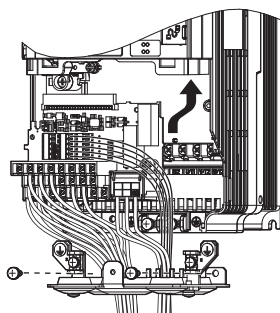

Figure 7.61 Drive Replacement: Installing the Terminal Board
1. Once the main circuit has been wired, connect the terminal block to the drive as shown in Figure 7.61. Use the installation screw to fasten the terminal block into place.